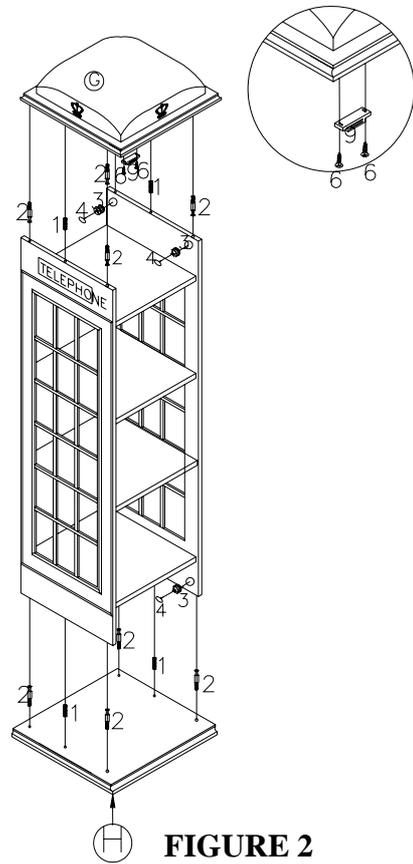

FIGURE 2
4. INSERT WOOD DOWELS (1), CAM-BOLTS (2) INTO PREDRILLED HOLES ON UPSIDE OF BASE (H). WITH AN ASSISTANT, INSERT WOOD DOWELS (1) AND CAM-BOLTS (2) EXTENDING FROM BASE (H) INTO CORRESPONDING HOLES ON BOTTOM EDGES OF LEFT AND RIGHT SIDE PANELS (A, B). INSERT CAM-LOCKS (3) INTO BIG HOLES ON INSIDE OF LEFT AND RIGHT SIDE PANELS (A, B) WITH SLOT FOR SCREWDRIVER FACING OUTWARD. ROTATE CAM-LOCKS (3) CLOCKWISE TO SECURE CAM-BOLTS (2). PUSH COVERS (4) INTO CAM-LOCKS (3). AS FIGURE 2 SHOWN.
5. INSERT WOOD DOWELS (1), CAM-BOLTS (2) INTO PREDRILLED HOLES ON UNDERSIDE OF TOP (G) AND FIT INTO CORRESPONDING HOLES ON TOP EDGES OF LEFT AND RIGHT SIDE PANELS (A, B). INSERT CAM-LOCKS (3) INTO BIG HOLES ON INSIDE OF LEFT AND RIGHT SIDE PANELS (A, B) WITH SLOT FOR SCREWDRIVER FACING OUTWARD. ROTATE CAM-LOCKS (3) CLOCKWISE TO SECURE CAM-BOLTS (2). PUSH COVERS (4) INTO CAM-LOCKS (3). AS FIGURE 2 SHOWN.
6. INSERT LONG PAN HEAD WOOD SCREWS (6) THROUGH ENDS OF MAGNET (9) AND TIGHTEN INTO PREDRILLED HOLES ON UNDERSIDE OF TOP (G). AS FIGURE 2 AND INSET SHOWN.